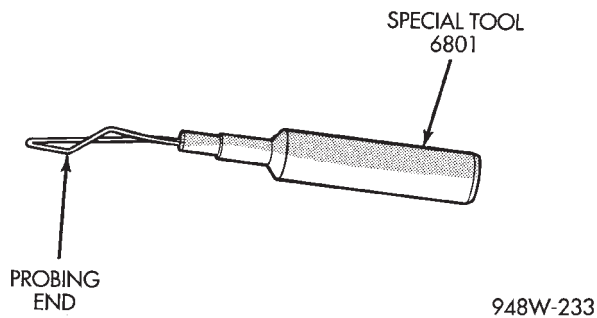

Fig. 8 Probing Tool
- **Probing Tools** - These tools are used for probing terminals in connectors (Fig. 8). Select the proper